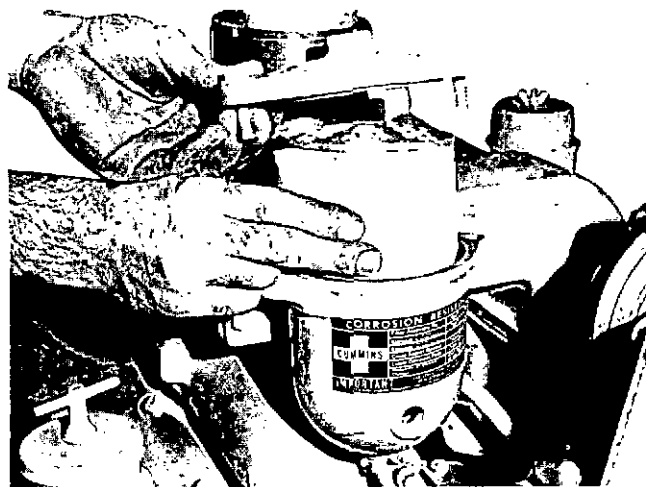

Fig. 5-19, V11919. Changing Cummins corrosion resistor
2. Remove cover capscrews and cover. Fig. 5-19.